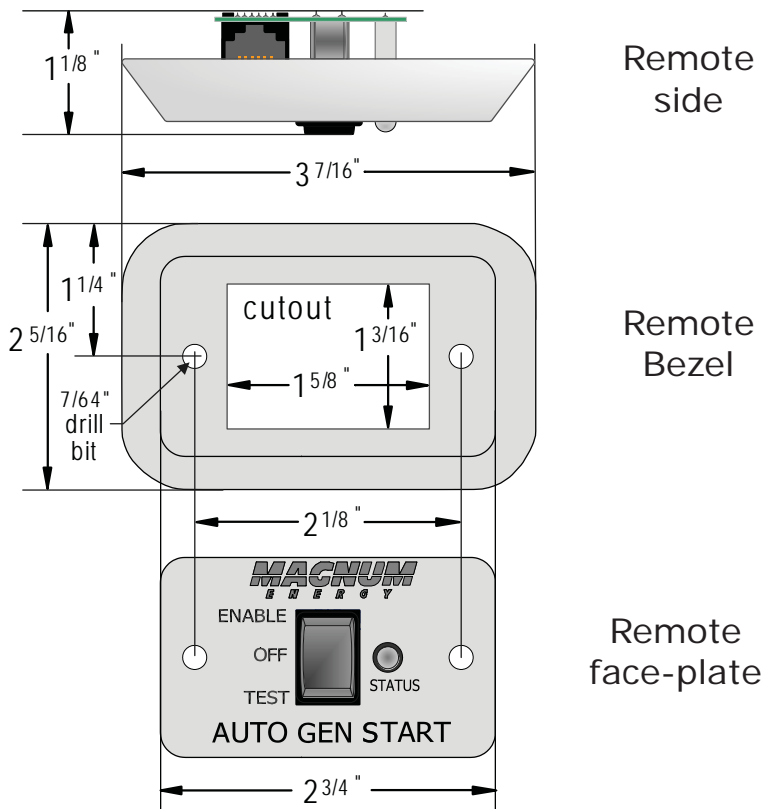

Figure 2-3, Remote Dimensions
2. Cut a hole for the switch, see Figure 2-3 for switch and cutout dimensions.